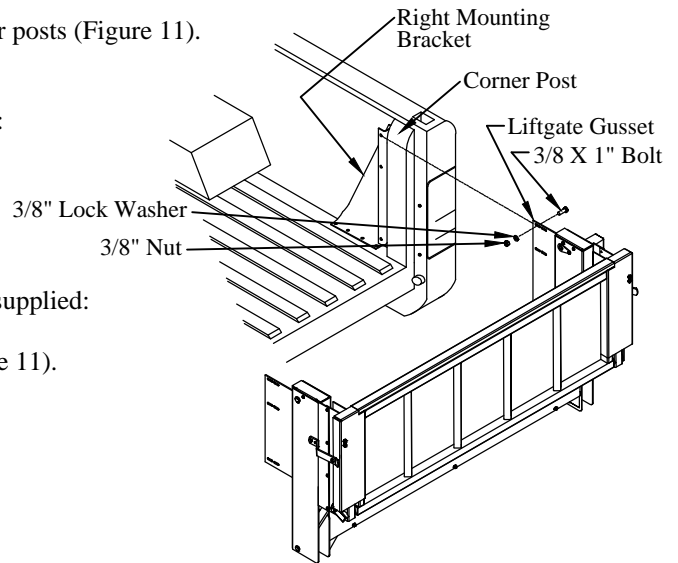

Figure 11: Mounting bracket and liftgate.
1. **Position** the mounting brackets into the truck bed in front of the corner posts (Figure 11).
- (3) 3/8"x1" hex head bolts on the bracket-side (Figure 11).
- (3) 3/8" lock washers, and (3) 3/8" nuts on the gusset-side (Figure 11).
7. **Drill** two (2) 3/8" holes into the truck bed floor using two holes in the bracket as a guide.